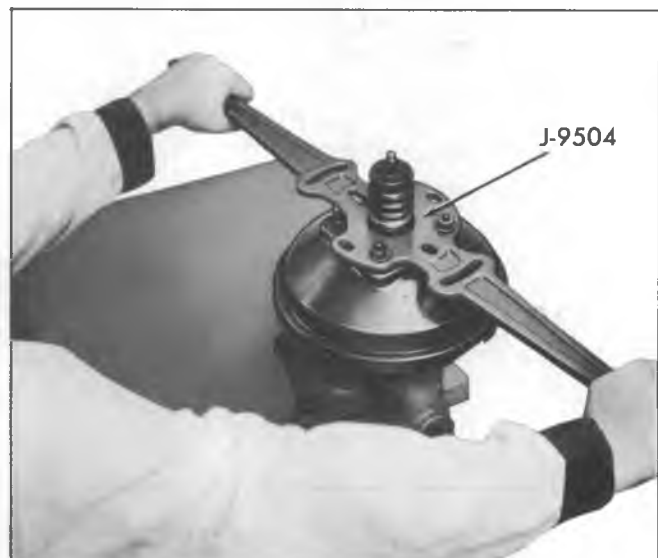

Fig. 4B-Separating Shells with Tools J-9504 and J-22805-(Passenger Car Shown as Typical)
7. Position Spanner Wrench J-9504 over studs of the rear shell and tighten nuts (fig. 4B).
2. Position and secure Tool J-22805 (fig. 4B) to master cylinder mounting studs, and place tool and front shell in a vise. Be sure to align tool so that check valve is not damaged.